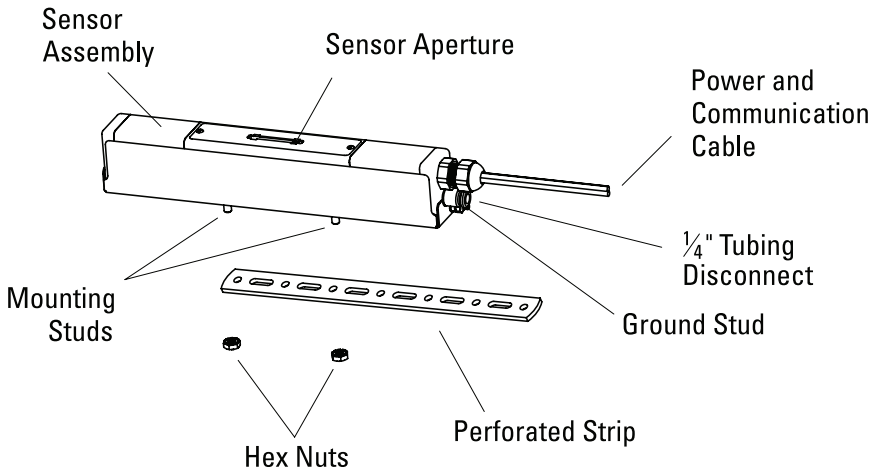

Figure 1: IQ Power HL Sensor Mounting
5. Attach sensor assembly using perforated mounting strip and hardware supplied. The perforated strip may be bent or twisted prior to installation, if necessary. See Figures 1 and 2.